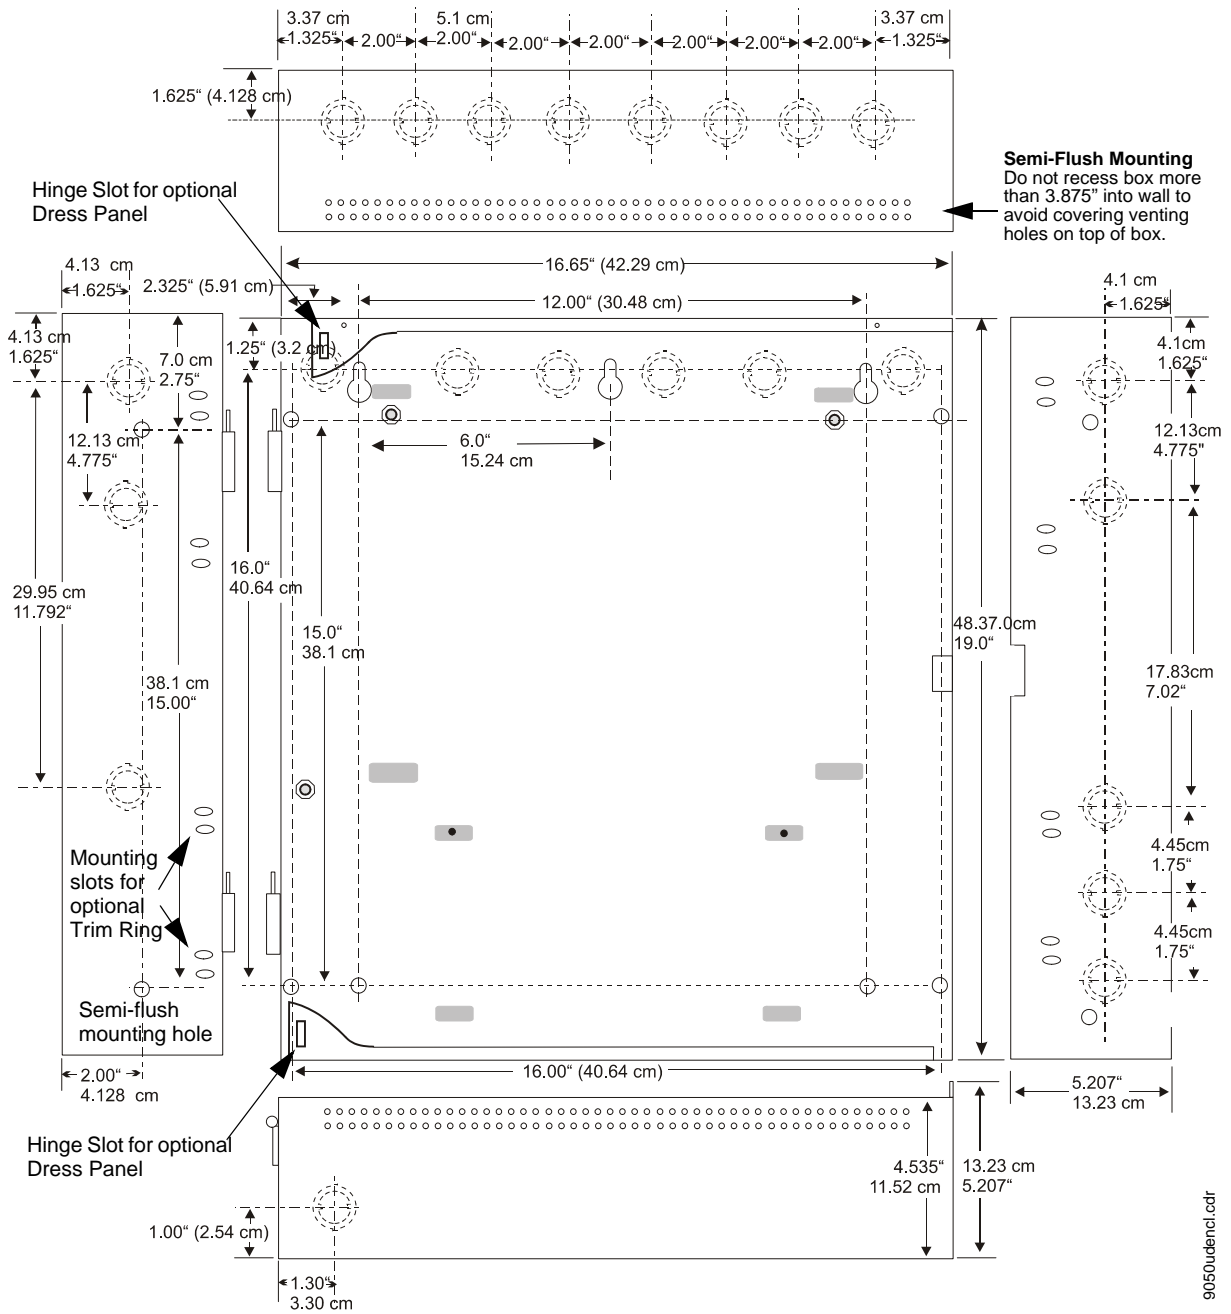

Figure 2.3 MS-9200UDLS Cabinet Mounting
1. Mark and predrill hole in the wall for the center top keyhole mounting bolt using the dimensions illustrated in Figure 2.3 on page 30.